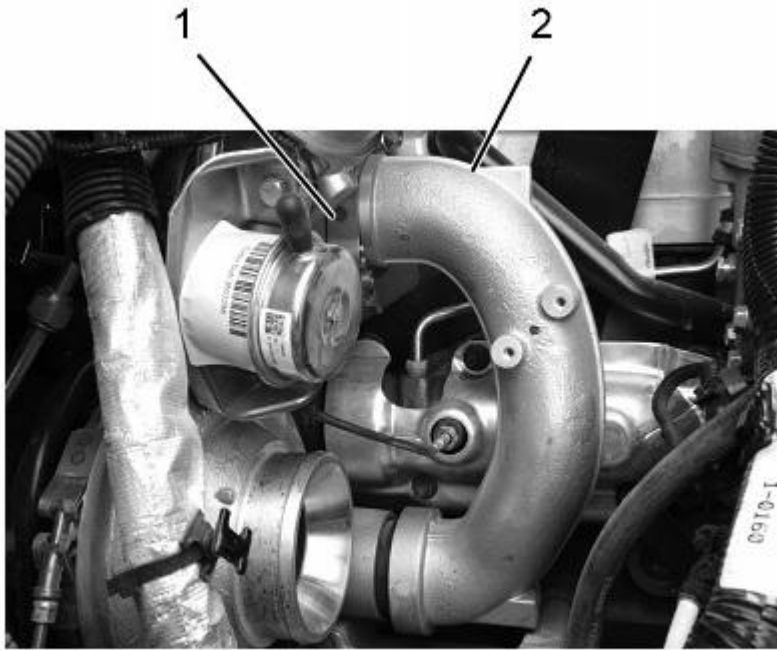

**Figure 4. Crossover Tube.**
**13. Remove V-band clamp (Figure 4, Item 1) and crossover tube (Figure 4, Item 2).**